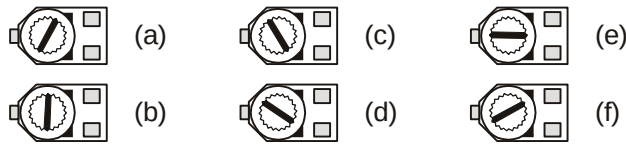

Figure 5-6
- ✓ Turn the potentiometer clockwise until it reaches its mechanical limit shown in Figure 5-6 (a).
- ✓ Gradually rotate the potentiometer counterclockwise to the positions shown in Figure 5-6 (b), (c), (d), (e), and (f) noting the how brightly the LED glows at each position.